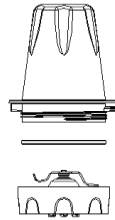

Fig 2
- Fill the grinder with proper coffee bean, then assemble the grinding blade and grinding bowl together. ( Fig.2)